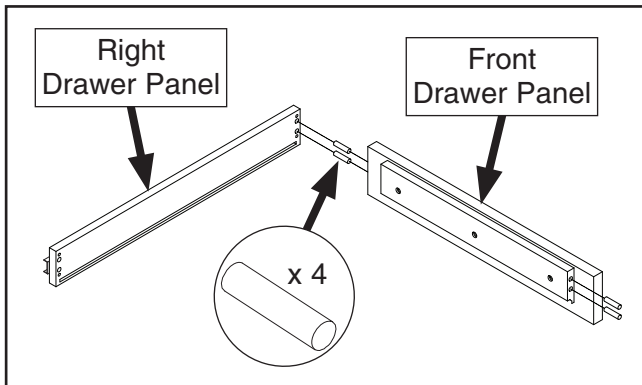

Figure 3. Attaching right and front door panels.
1. Insert (4) wood dowels in front drawer panel, as shown in **Figure 3**.
2. Press right drawer panel onto wood dowels to attach it to front drawer panel (see **Figure 3**).